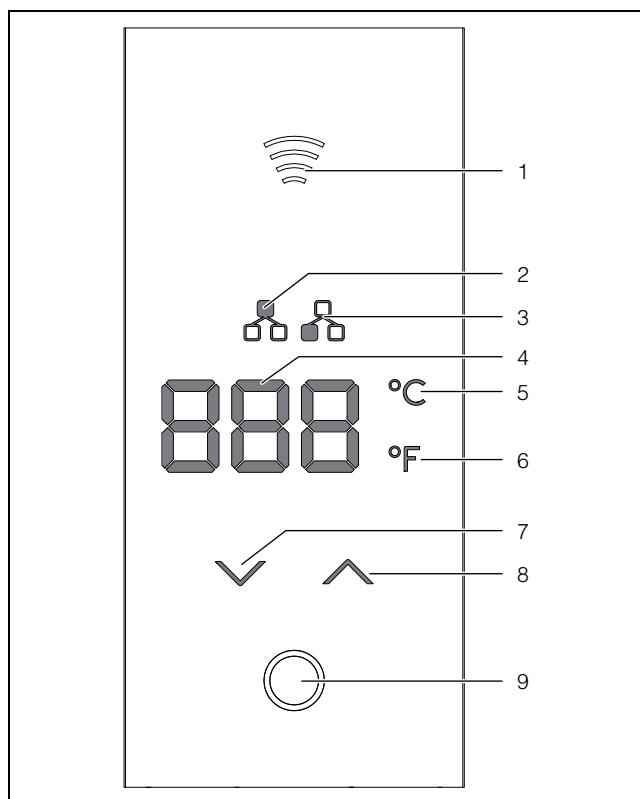

Fig. 30: Display
The display has a three-digit, 7-segment display (fig. 30, item 4). After switching on the power supply, the average server intake air temperature will soon appear here (after approx. 10 seconds) and will then be permanently displayed as long as there are no error or system messages. If such messages do occur, they will alternate with the temperature display.